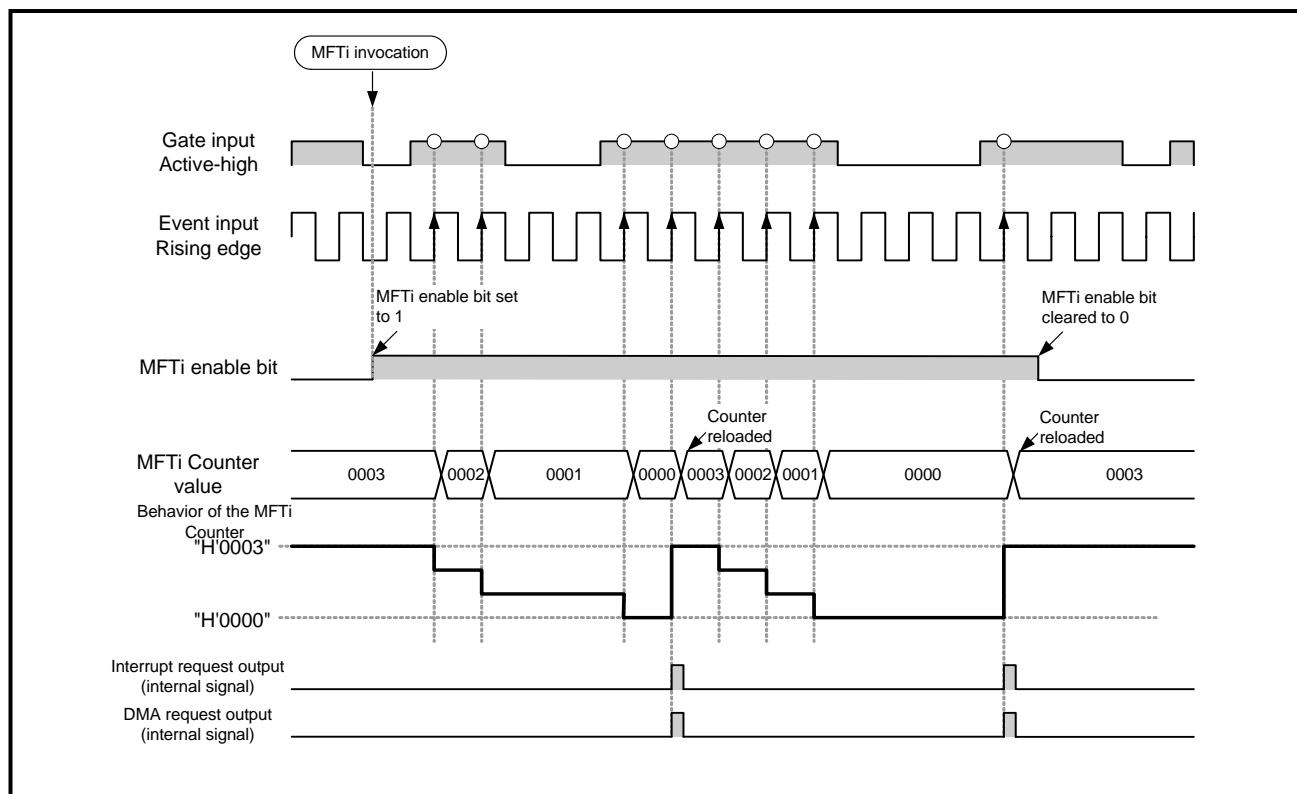

Figure 12.3.27 Example Operation Timing of MFTi when Acting as 1-Phase Event Counter
(3) Operation of MFTi as the 1-phase event counter
Figure 12.3.27 shows an example operation timing of MFTi when acting as the 1-phase event counter that was set in (2).